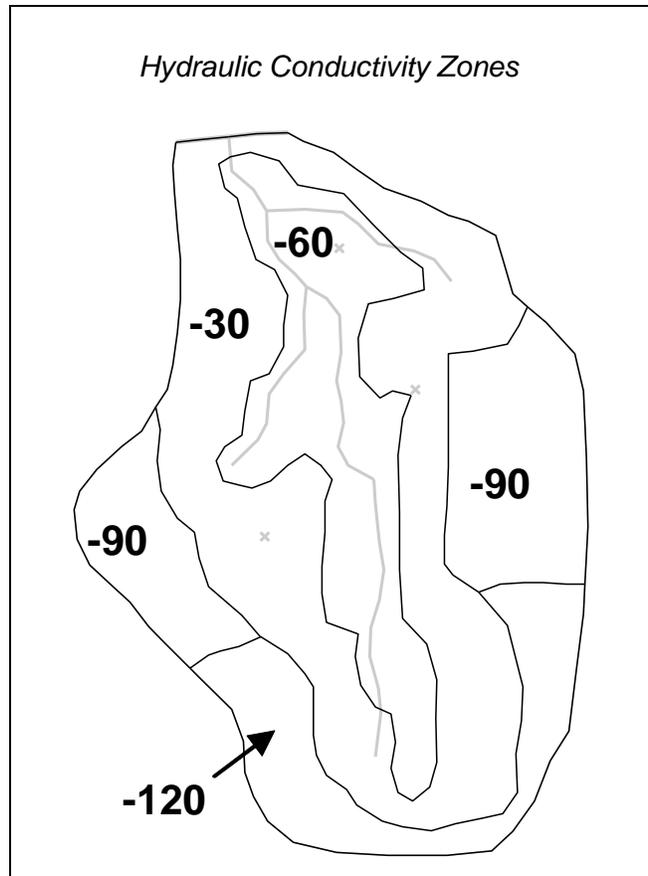

Figure 3 Hydraulic conductivity zones and parameter key values
Start with setting up the hydraulic conductivity zones. The hydraulic conductivity polygons are shown in Figure 3. The five polygons will be used to define five parameter zones. The key values associated with each of the five zones are shown on the polygons in Figure 3.
2. Using the **Select Polygons** tool, double-click on the central polygon with the value of "-60" (see Figure 3) to open the *Attribute Table* dialog.
4. Repeat steps 2–3 for the remaining four polygons, entering the parameter key values as indicated in Figure 3.